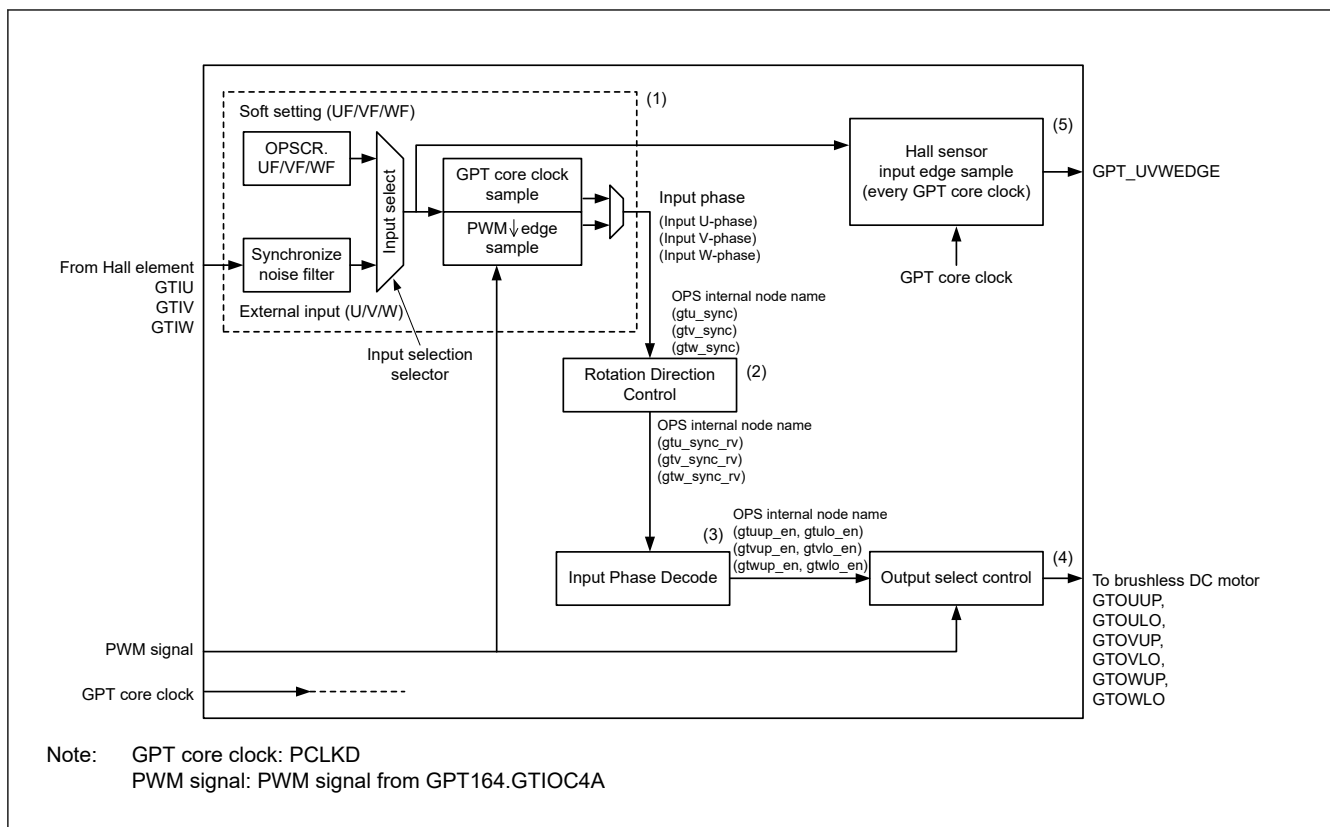

Figure 20.55 Conceptual diagram of GPT_OPS control flow
Figure 20.55 shows the conceptual diagram of GPT_OPS control flow.
In the GPT_OPS control flow conceptual diagram shown in Figure 20.55, (1) is a selection of input phase from the software settings and external input by the OPSCR.FB bit.
In the GPT_OPS control flow conceptual diagram shown in Figure 20.55, (3) enables the 6-phase signals by decoding the input phase selected in the OPSCR.FB bit.
In the GPT_OPS control flow conceptual diagram shown in Figure 20.55, (2) controls the direction of rotation of a 3-phase motor using the OPSCR.RV bit.
In the GPT_OPS control flow conceptual diagram in Figure 20.55, (4) represents the selection of the output waveform by setting the OPSCR register bit.
In the GPT_OPS control flow conceptual diagram shown in Figure 20.55, (5) outputs the Hall sensor input signal edge to the ELC.